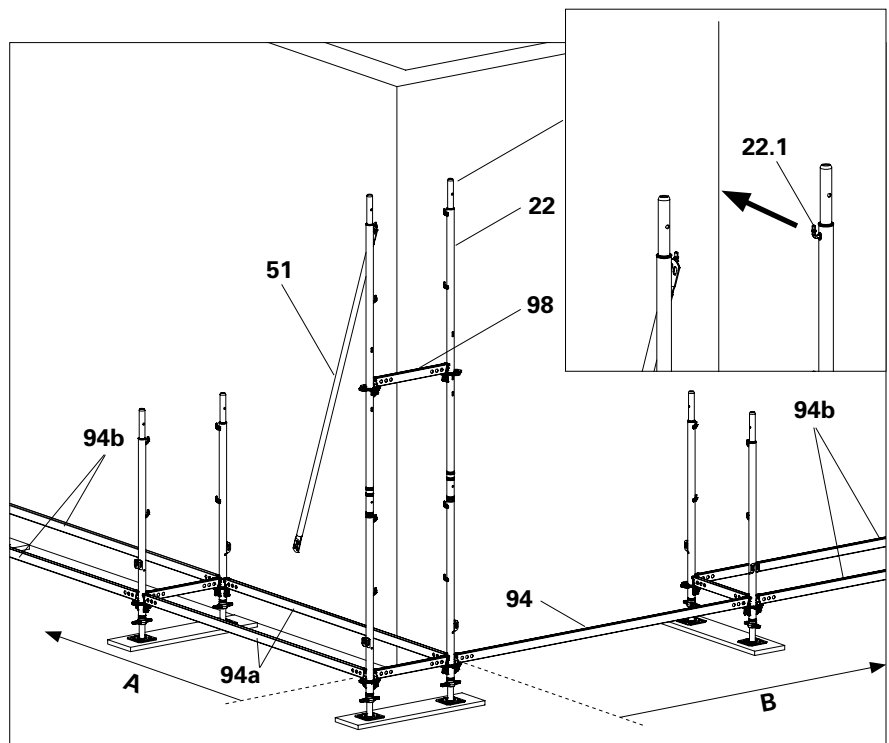
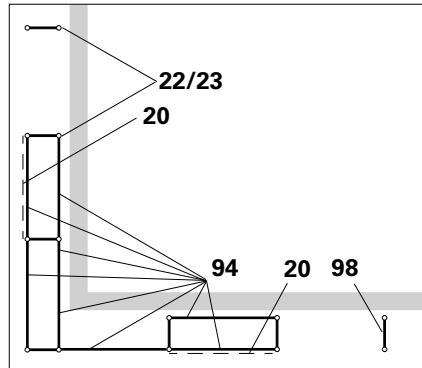

Fig. B6.01
Fig. B6.01a
In this version of the assembly process, the decks on the base level are taken out again. (Fig. B6.01a)
2. Fit two Horizontal Ledgers UH-2 (94a) into the continuous scaffold bay (A). Secure the wedges.
3. Connect the adjacent scaffold bay (B) with one horizontal ledger (94).
4. In both of the following bays, fit two Horizontal Ledgers UH-2 (94b) (one diagonal is installed in each of these bays). (Fig. B6.01a)
5. Connect two Easy Standards EVM (22) with Horizontal Ledger UH-2 67 (98). The guardrail hook (22.1) on the Easy standard (22) points inwards in the direction of the continuous scaffolding.
6. Attach the guardrail post (51). (Fig. B6.01)
- For the arrangement of horizontal ledgers and face braces, see Fig B6.01a + B6.01b.